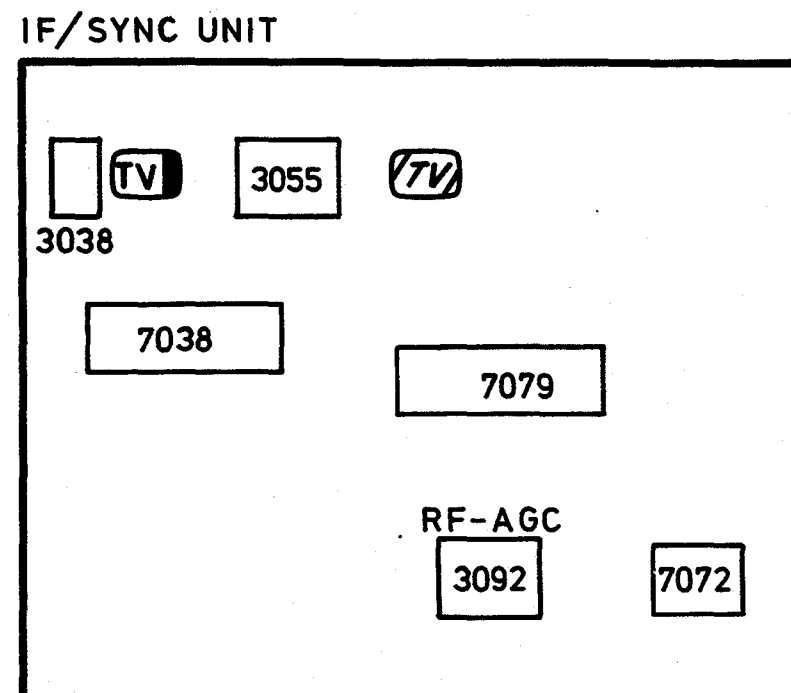

Fig. 5
B. ADJUSTMENTS TO IF/SYNC UNIT 1040 (Fig. 5)